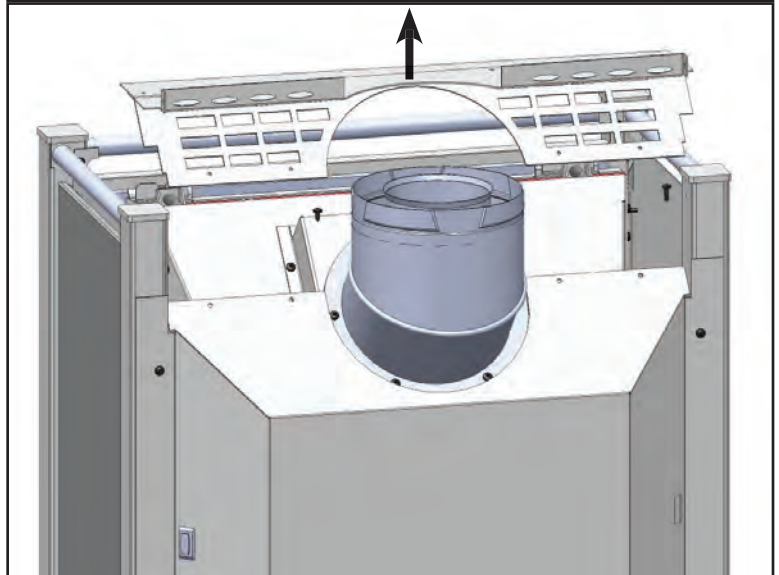

Fig.15
3. Remove top rear grill assembly from appliance and set aside. **(Fig.15)**